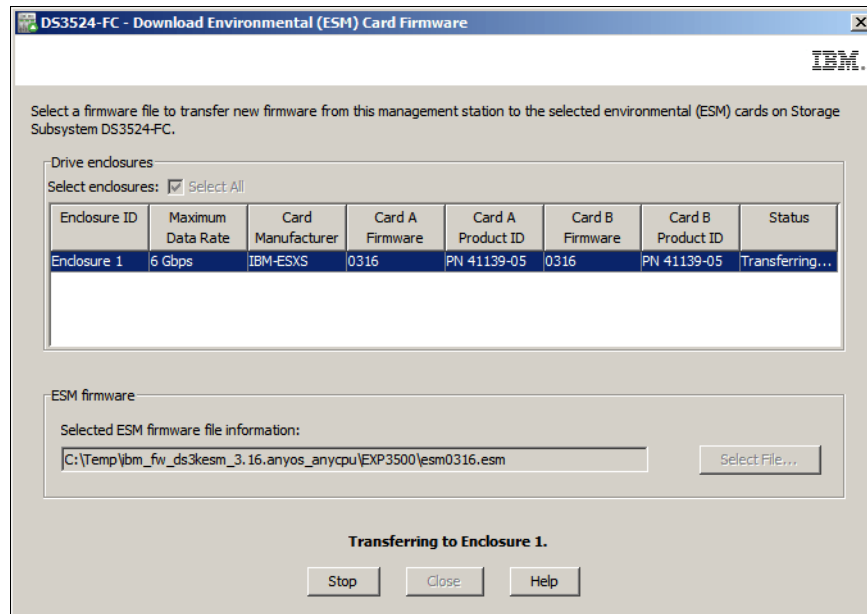

Figure 14-51 Transferring the ESM firmware
- The status field in the row of selected enclosures changes from Pending to Transferring while the ESM card firmware upgrade progresses. Monitor the progress and completion status of the download, as shown in Figure 14-51.